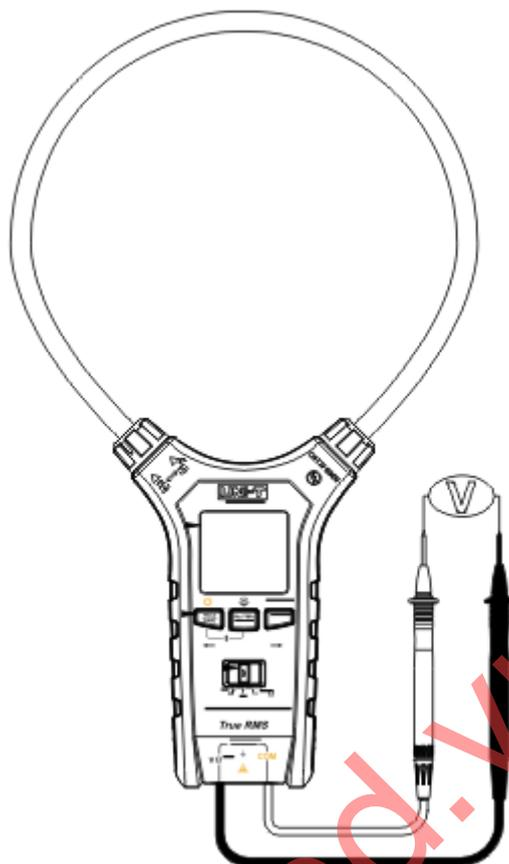

Figure 3
1. AC/DC voltage and frequency measurement (Figure 3)